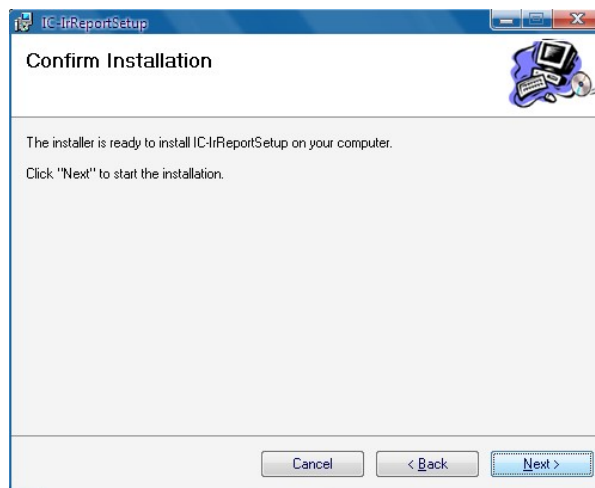

Fig.1.2.5
- Click the Next button to continue the installation or Back button to the previous step or Cancel button to terminate the installation(see Fig. 1.2.5);